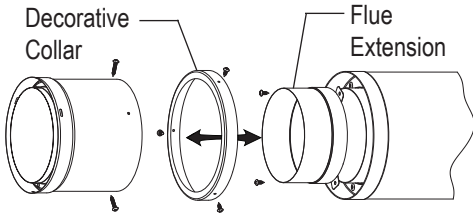

Figure 6
3. Attaching DVL to DT Canada and DT Premium (Decorative Collar Assembly) (Figure 6 and 7)
Slip the Decorative Collar onto the Flue Extension and chimney pipe as shown in Figure 6. Secure with the provided short self-tapping sheet metal screws to the outer sleeve of the chimney.